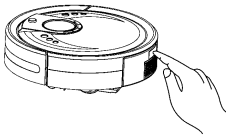

Figure 1
01. Press the button on the dustbin by hand. (See figure 1)